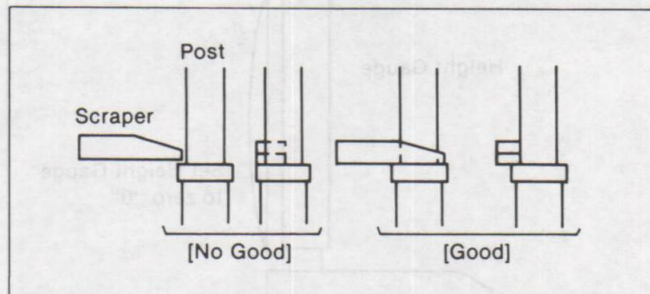

Fig. M15
4. Place the scraper of Reel Table Height Gauge as shown in Fig. M15.